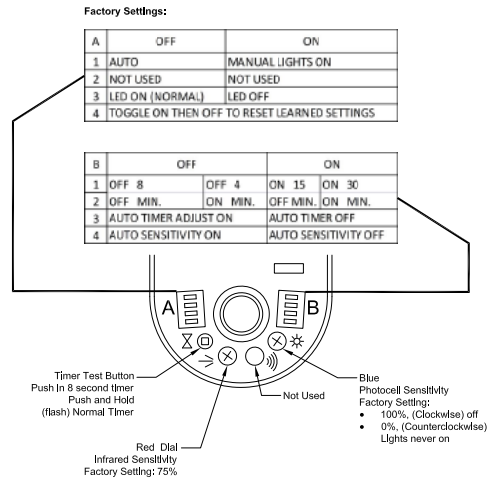

FIG. 5
4. Confirm the correct coverage by simulating typical motion in the coverage area. To test the sensor, remove the access plate and press the TIMER TEST MODE BUTTON FIG. 5. The lights will now turn off 8 seconds after motion stops. If the desired coverage is not achieved, re-aim the sensor or relocate it. After testing, push and hold the switch to return to the normal timer mode. Reinstall access cover and torque screw 10-12 lb-in (1.1 - 1.4 N-M). After position of sensor is confirmed, torque pivot screws 10-12 lb-in (1.1 - 1.4 N-M).
AMBIENT LIGHT LEVEL CONTROL FIG. 5
1. Remove the access plate. Press the TIMER TEST MODE BUTTON to activate the 8 second test mode. FIG 5.